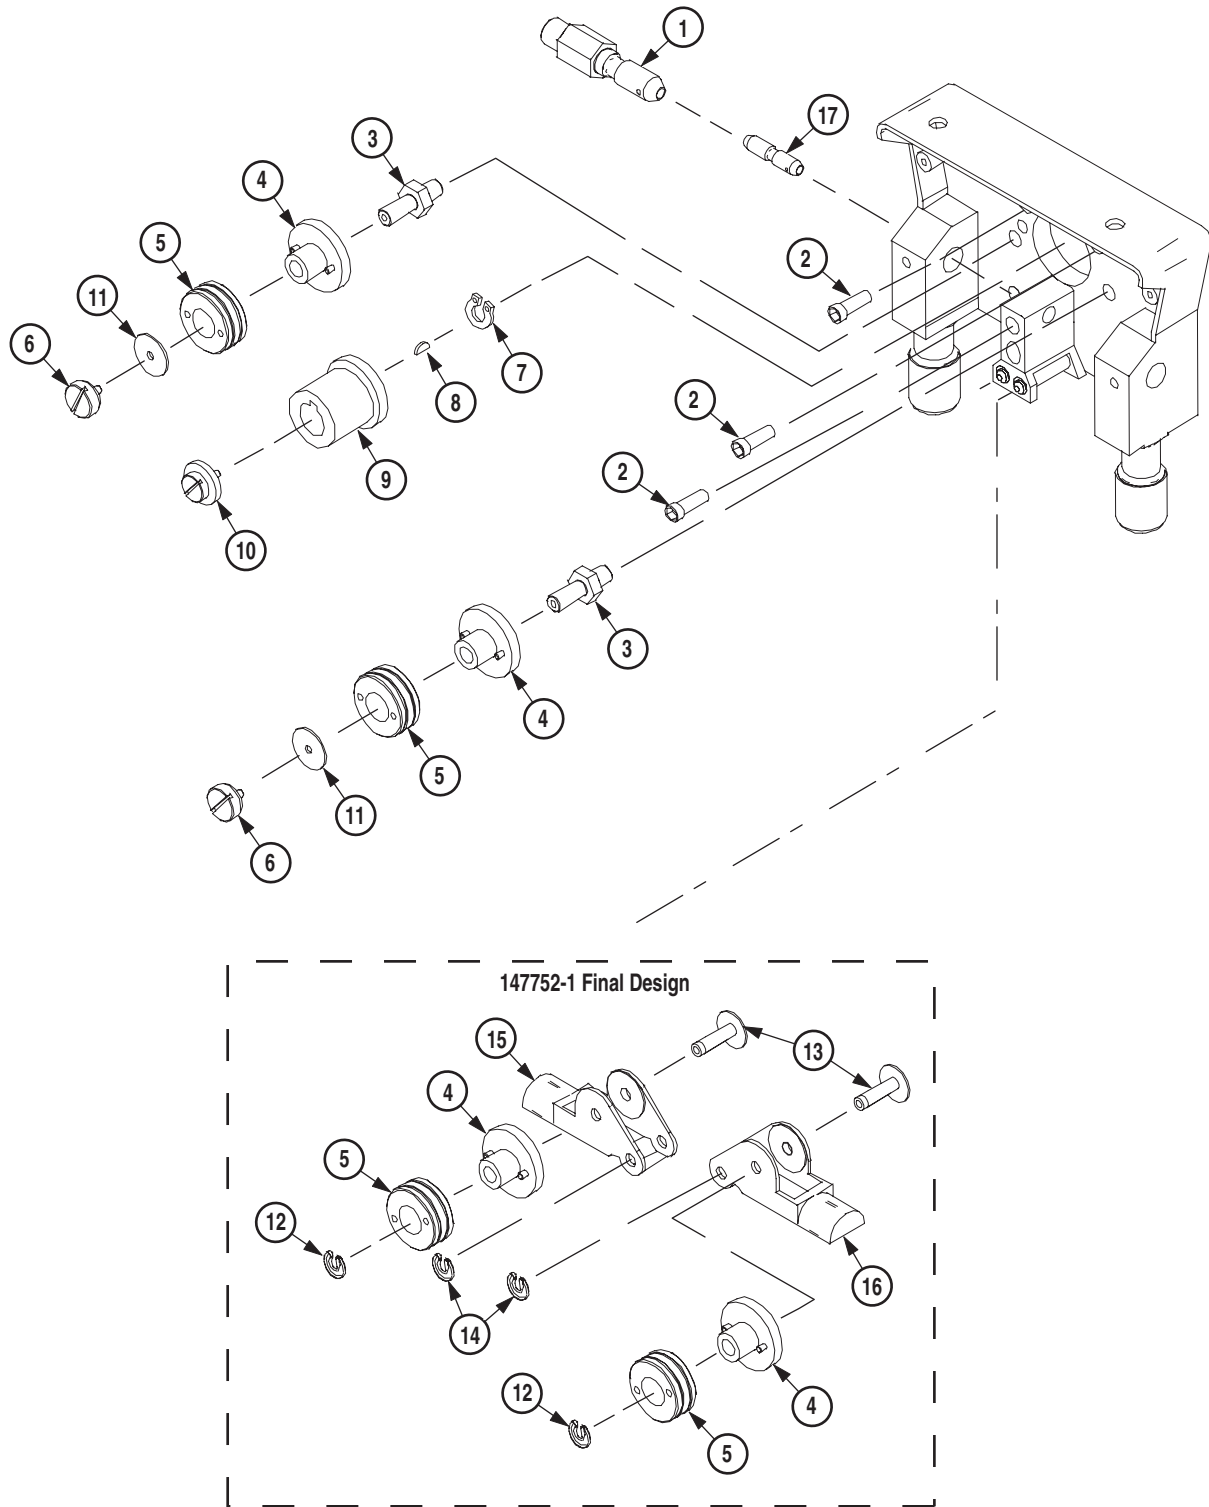

Figure 14 Front Released Mounting Frame Exploded
* See Figure 14 for exploded view.